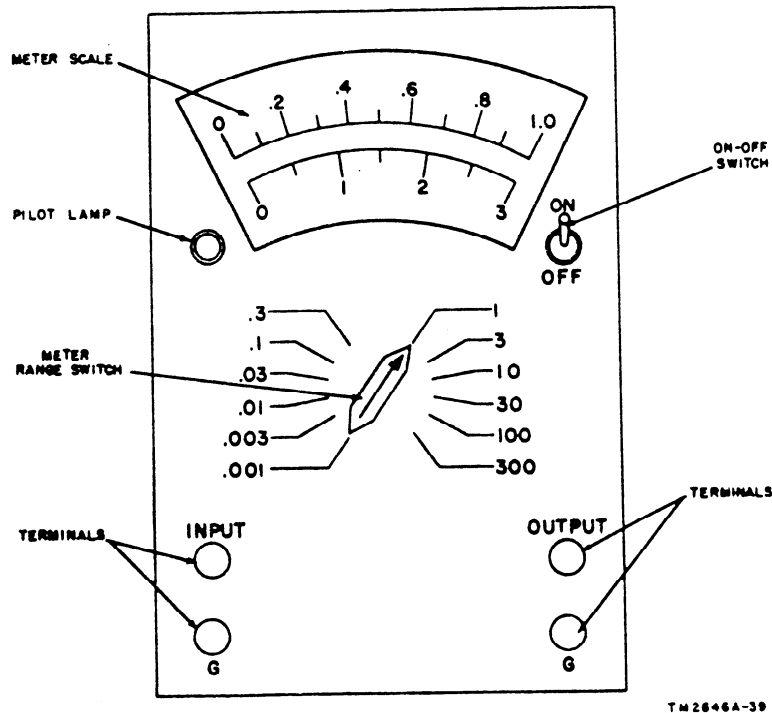

Figure 34. Voltmeter ME-30A/U, front panel view showing controls.
- b. Connect the red and black test leads to Voltmeter ME-30A/U (fig. 34) as follows:
- (2) Connect the INPUT G binding post of the voltmeter to the L and R (high) binding posts of the bridge.
- c. Turn the ME-30A/U meter range switch (fig. 34) to 30. Move the ON-OFF switch on the ME-30A/U to ON. The pilot lamp should light.